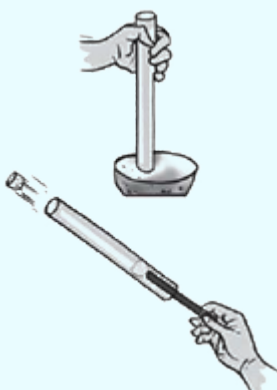

Fig.10.1.9: *An Illustration of the effect of pressure applied on fluid*
- Take an aluminium tube about 15 cm long and 1 to 1.5 cm in diameter (Fig.10.1.9).